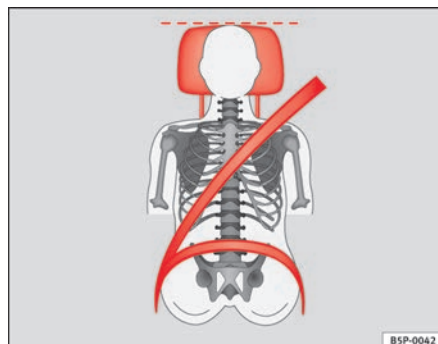
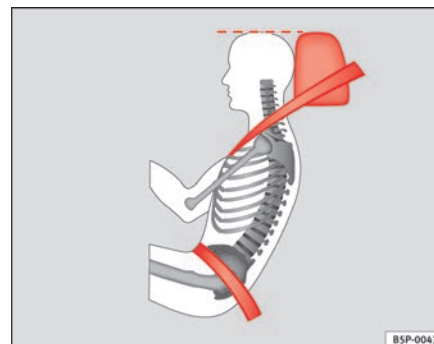

Fig. 66 Front view: head restraints and seat belts correctly adjusted
Fig. 67 Side view: head restraints and seat belts correctly adjusted
- Adjust the head restraint so that the top is at the same level as the top of your head or as close as possible to the same level as the top of your head, at least at eye level ⇒ fig. 66 and ⇒ fig. 67.